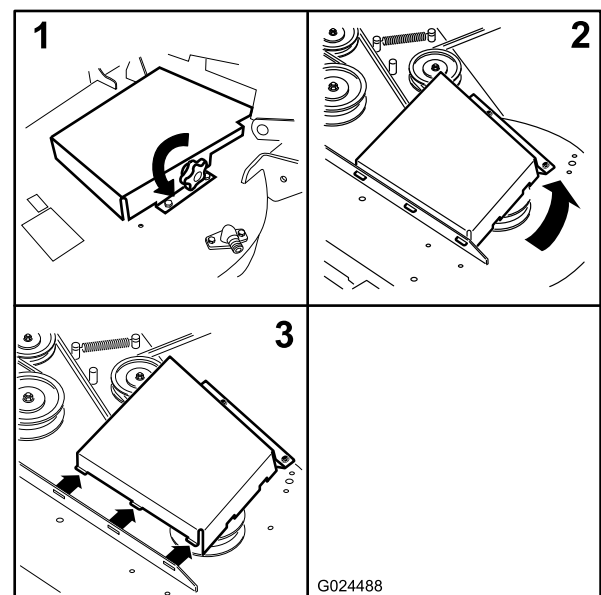

Figure 62
5. Remove the belt covers (Figure 62).